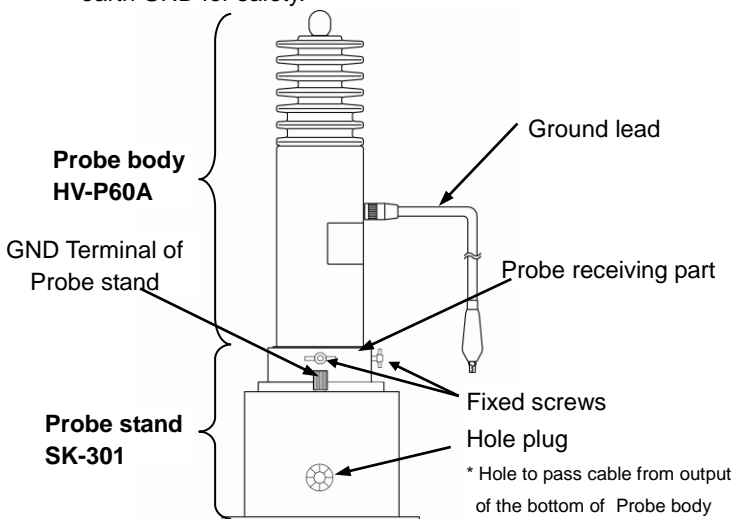

Figure 4(a) Probe body HV-P60A and Probe stand SK-301
* Refer to following 1) to 5) and Figure 4(a), (b) and (c).